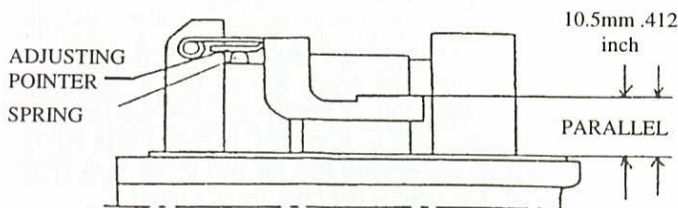

FIGURE 7
2. Adjust for parallelism by bending the float-arm pointer with a small, flat-tipped screwdriver. Exercise care during adjustment - **NOT TO BEND THE PARALLEL FLOAT ARM LEVERS.** Not only must the arm be parallel with the carburettor, the arm levers must be parallel with each other, in order not to cause binding with the float elements. (See Figure 7)